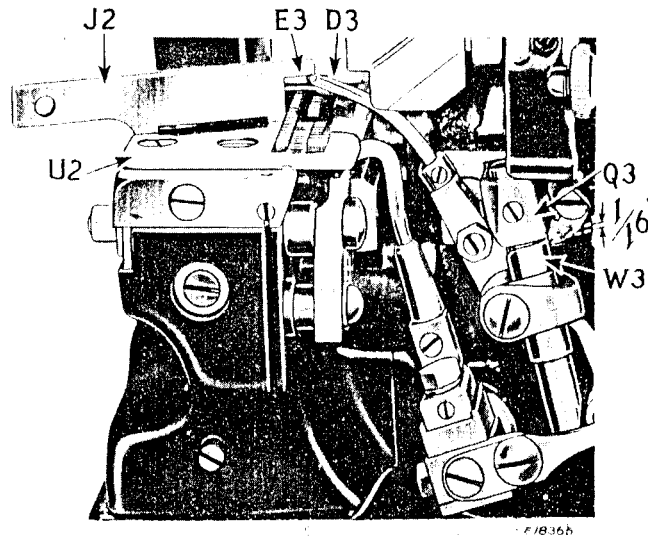

Fig. 23. Setting the Height of the Right Looper
See Figs. 23 and 24
1. When the right looper carrier is at its extreme left motion, the distance between the bracket Q3 and the guide bar W3 should be approximately 1/16 inch, as shown in Fig. 23.
3. Insert the looper D3 in the looper carrier S3 and place the gauge J2 on the throat plate U2, as shown in Fig. 23. When the right looper D3 is at its extreme left motion, it should touch the undersurface E3 of the gauge J2.